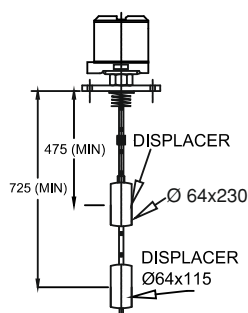

FIGURE 4: MODEL 412
- 412 : Wide Differential (Adjustable) type using **One** Switch Assembly and **Two** Displacers. (With Minimum upper & lower operating points of 475 mm & 725mm respectively. (Refer Fig. 4)